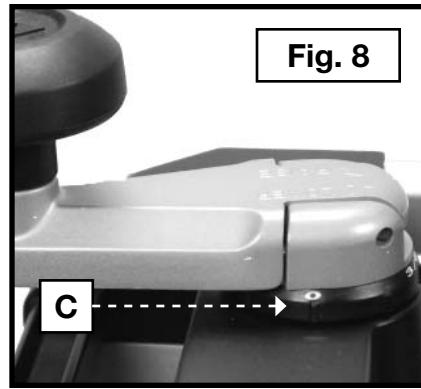

Fig. 8
NOTE: The cutterhead adjustment handle is supplied with markings (C) Fig. 8 to make your cuts accurate.